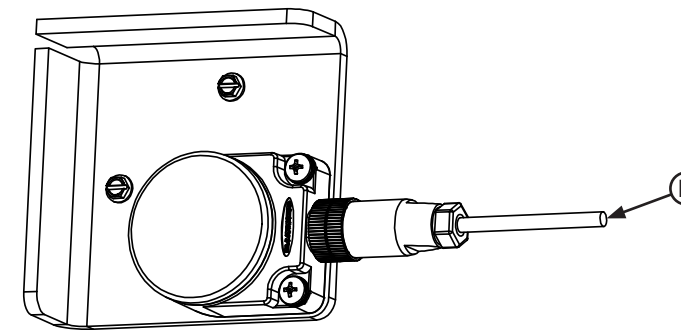

Figure 3
The Low Mount Vehicle Present Sensor is designed for transport vehicle detection at the loading dock. The sensor communicates when a transport vehicle arrives or departs and provides valuable loading dock analytics when paired with MyQ Dock Management. It mounts on the building exterior, below a loading dock and attaches to a bracket that provides impact and weather protection. Two kits are available based on the application and include a straight or 90 degree cable connection. See **Figures 3 and 4**.
1. Connect the cable to the sensor as shown in **Figures 3 and 4**.